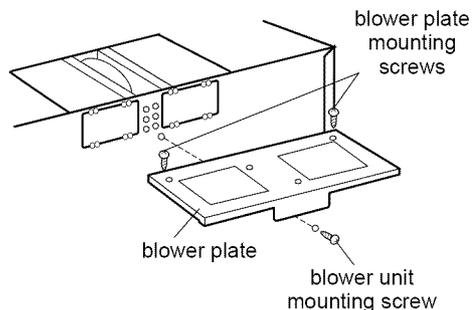

Figure 20
6. Reattach blower plate to microwave oven. Attach with the one blower unit mounting screw and then the two blower plate mounting screws. See Figure 20.